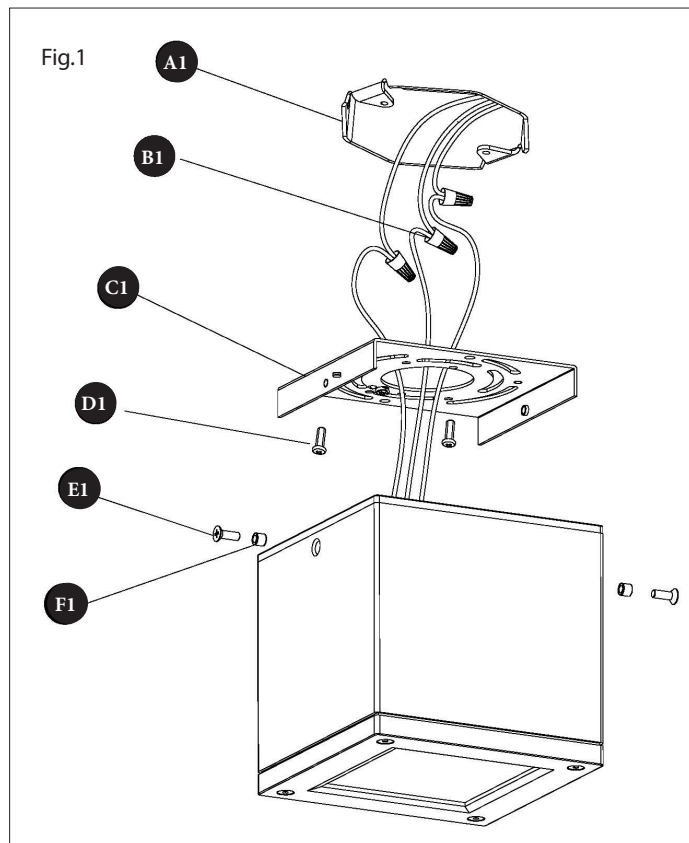

Fig.2
#### CONNECTING THE WIRES (Fig. 2)
4. Connect the electrical wires as shown in Fig. 2, making sure that all wire connectors (B1) are secured.